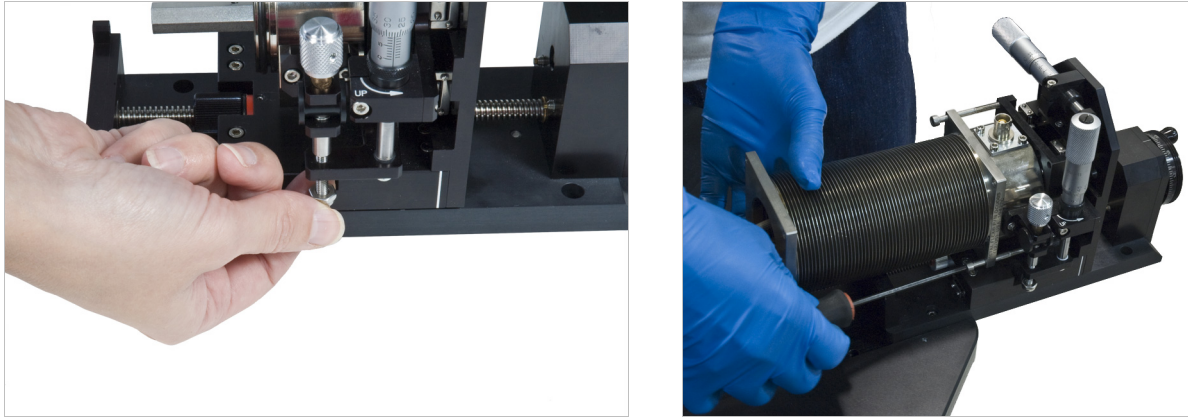

FIGURE 5-26 *Left: Thread the nut onto the bottom of the shaft; Right: Tighten the four long horizontal M4 screws*
6. Using small pliers or an adjustable wrench, thread the nut onto the bottom of the shaft until the end of the shaft is flush with the nut (FIGURE 5-26).